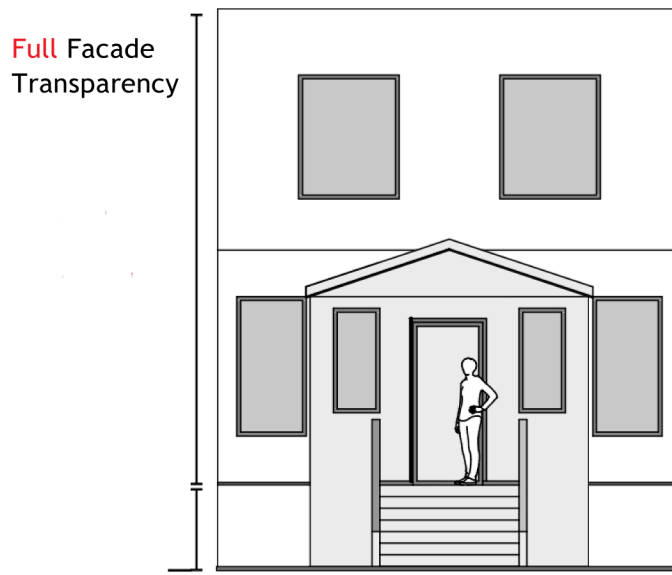

Figure 5.5-5. Porch Entrance Type
- (d) Porch entrance type. A porch is a raised, roofed platform. Porches can be fully enclosed. Refer to Figure 5.5-5, Porch Entrance Type.